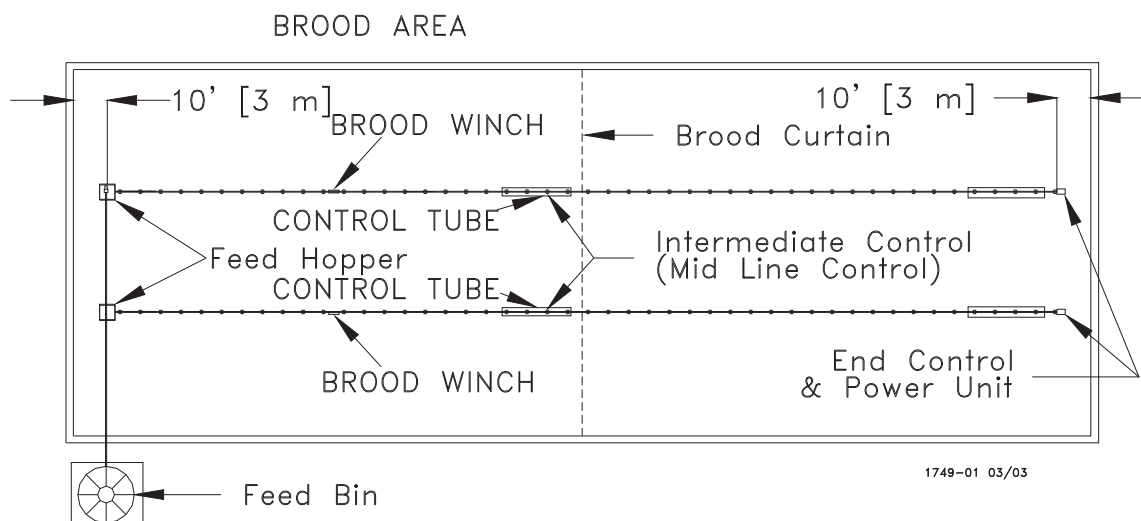

Figure 1. Component location diagram for systems up to 350 feet [122 m]. (Top View).
A. Optional Mid Line Controls may be used for partial house brooding. See **Figure 1**.